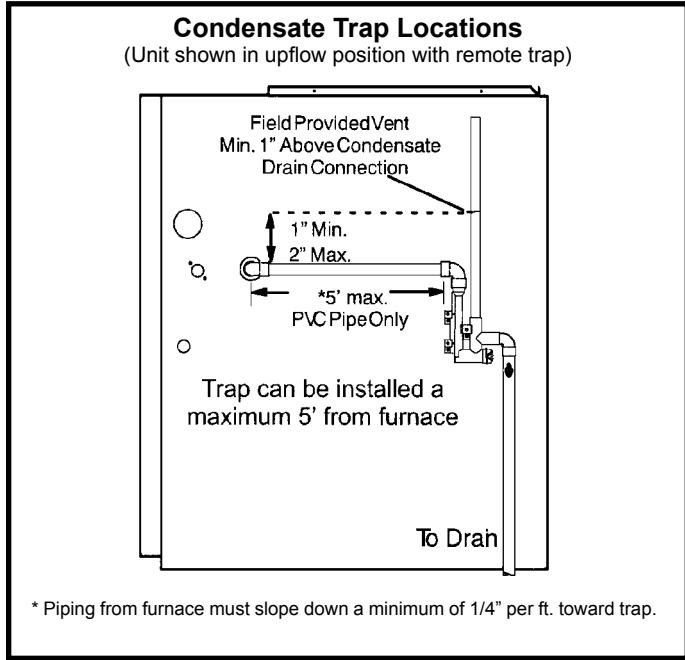

Figure 51
**Upflow furnace (Figure 51)** - In upflow furnace applications the field provided vent must be a minimum 1" to a maximum 2" length above the condensate drain outlet connection. Any length above 2" may result in a flooded heat exchanger if the combined primary drain line were to become restricted.